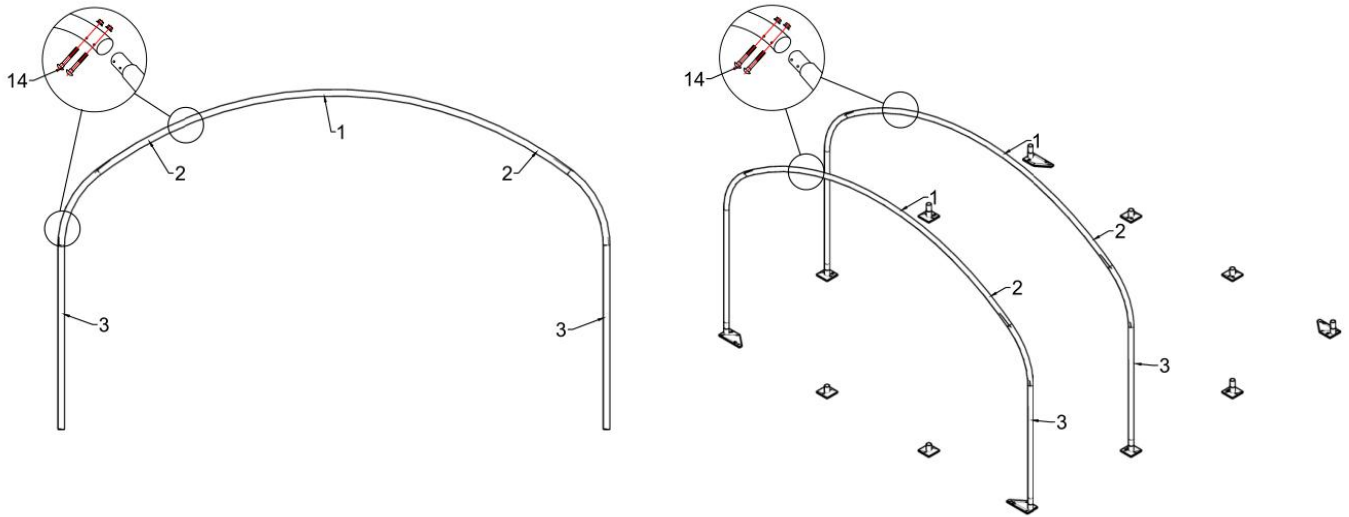

Figure 3
2. Install the first group arches as Figure 3 shows, Connect **Sidewall Bent Tube**(No.2) and **Standing Leg** (No.3) by using **M8*80 Carriage Bolts** (No.14).